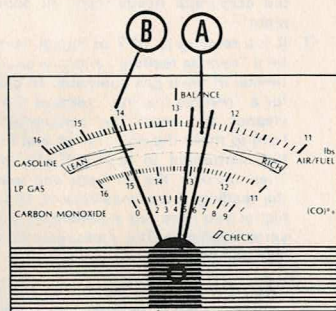

Figure 5
- B. Connect gas analyzer as shown in Figure 5.
NOTE: Turn each screw at $\frac{1}{16}$ of a turn out, allow 10-15 seconds to give the engine and gas analyzer time to stabilize. (See Figure 5 "a")